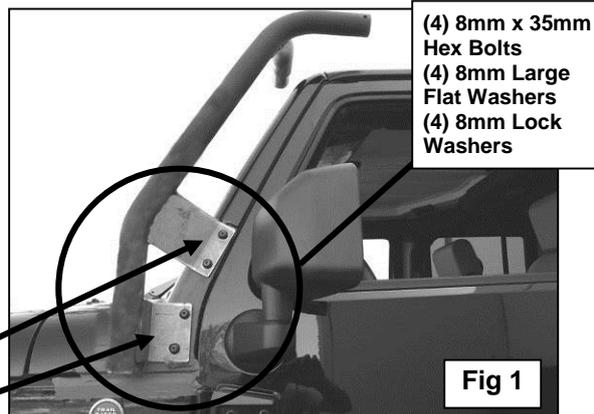

Fig 1
1. Peel, stick and trim the self-sticking Foam Gaskets to the inside surface of the two mounting tabs on each Front Leg. Remove the driver side (4) factory outer windshield hinge bolts. Locate the driver side Front Leg, **(A)** and attach it to the windshield hinge using (4) 8-1.25mm x 35mm Hex Bolts, (4) 8mm Lock Washers and (4) 8mm x 24mm x 2mm Large Flat Washers, **(Figure 1)**.